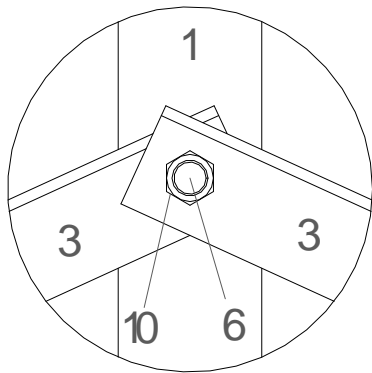

Fig. 4
2. Determine the position of the installation racks (1) on the roof – considering the measurement distances (W) given on the table on the last two pages (**data serve as guidelines, depending on the installation type**). Fix the installation racks using one of the mounting sets (accessories available), or other adequate material on the ground.
3. Install the alu struts (3) using the screws (6) and the nuts (10) in the corresponding drilling on the installation rack (1) as illustrated in Fig. 4 on next page. The required drillings on the alu strut have to be made on site. The first alu strut must be positioned between the lower drilling of the first triangle (1) and the upper drilling of the second triangle. The second alu strut is positioned from top to bottom (see Fig. 3).